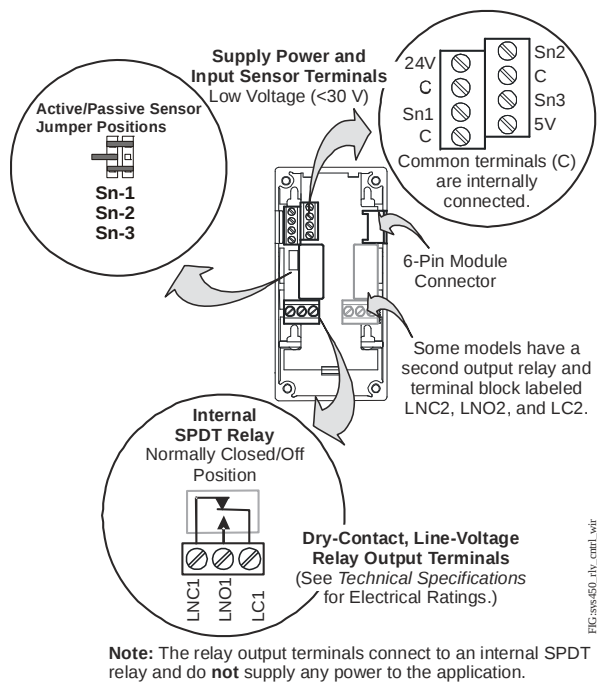

Figure 2: C450RxN-1 Wiring Terminals
See Figure 2 and Table 1 for electrical termination locations and wiring information. See *Technical Specifications* on page 26 for electrical ratings.
1. See Internal SPDT Relay insert in Figure 2 for more System 450 relay contact and terminal information. See Technical Specifications for SPDT relay electrical ratings.